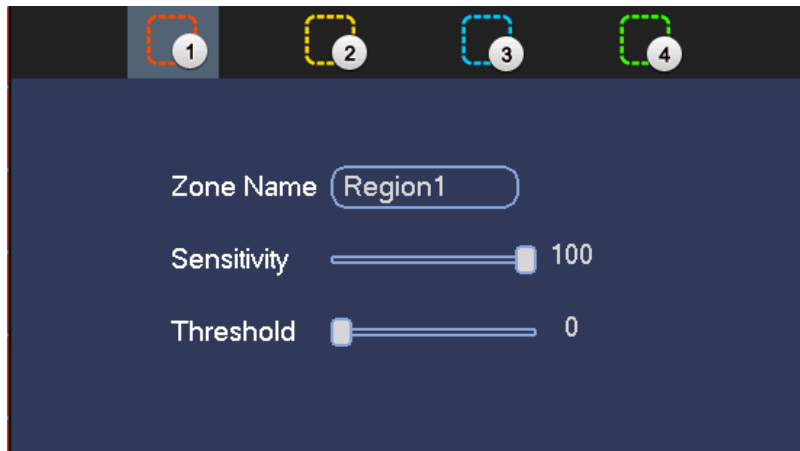

Figure 4-148
- Region: Click select button, the interface is shown as in Figure 4-148. Here you can set motion detection zone. There are four zones for you to set. Please select a zone first and then left drag the mouse to select a zone. The corresponding color zone displays different detection zone. You can click Fn button to switch between the arm mode and disarm mode. In arm mode, you can click the direction buttons to move the green rectangle to set the motion detection zone. After you completed the setup, please click ENTER button to exit current setup. Do remember click save button to save current setup. If you click ESC button to exit the region setup interface system will not save your zone setup.
In Figure 4-148, you can left click mouse and then drag it to set a region for motion detection. Click Fn to switch between arm/withdraw motion detection. After setting, click enter button to exit.